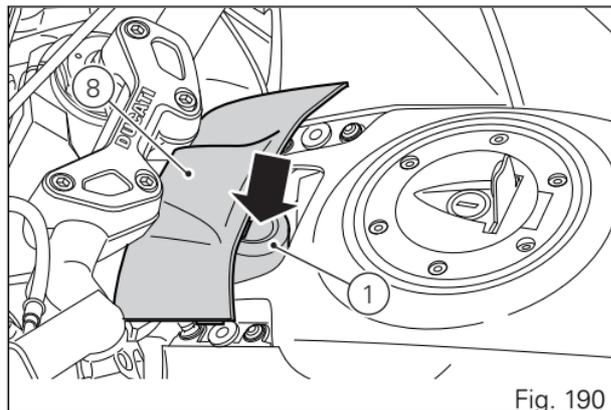
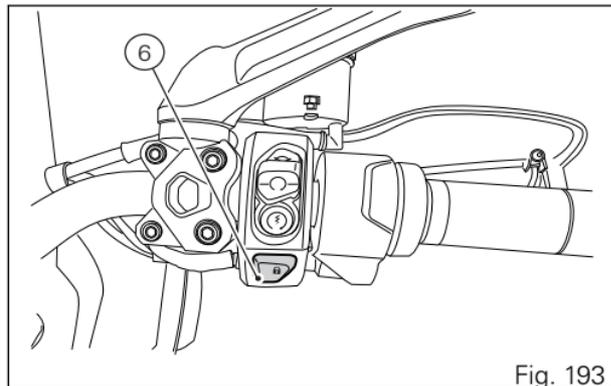

Fig. 190
Fig. 193
(Fig. 190) indicates the position of the Hands Free unit (1), with protection lid (8) and (Fig. 191) indicates the position of the antenna (2) under panel (9) at the key symbol.
Key-Off occurs when the speed of the motorcycle is equal to zero, by pressing button (6, Fig. 193) on the handlebar or by pressing the Hands free button (1, Fig. 190). When speed is not equal to zero, perform key-off by pressing the Hands free button (1, Fig. 190).